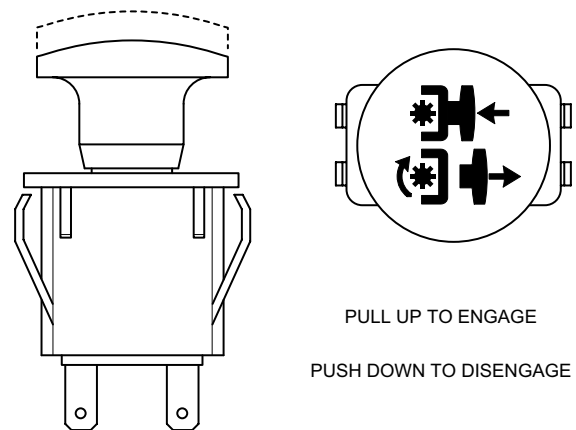

Figure 4-6. Cutter Engage Switch
2. Engage the deck drive by pulling up on the yellow switch, located on the instrument panel, to the engage position. See Figure 4-6.